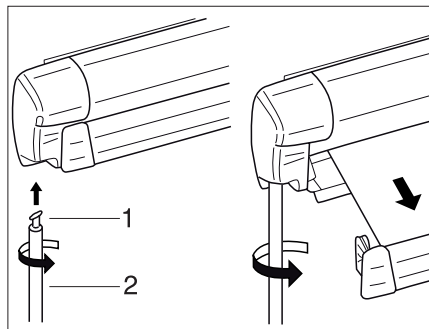

Fig. 19 Awning
- ▶ Insert the hook (Fig. 19,1) of the crank rod (Fig. 19,2) into the lug and turn by 90°.